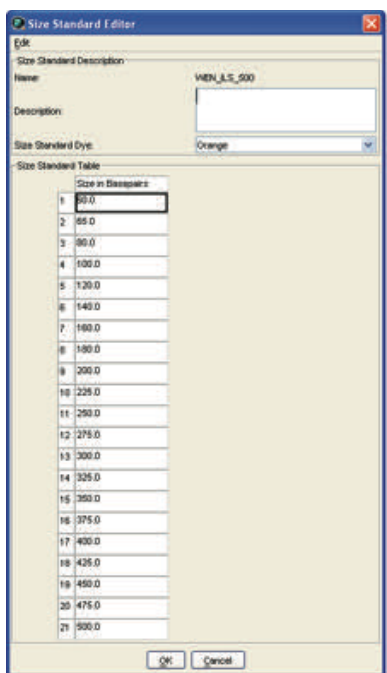

Figure 18. The GeneMapper® ID Software Size Standard Editor.
5. Enter a detailed name, such as “WEN ILS 500”, in the Size Standard Editor (Figure 18).